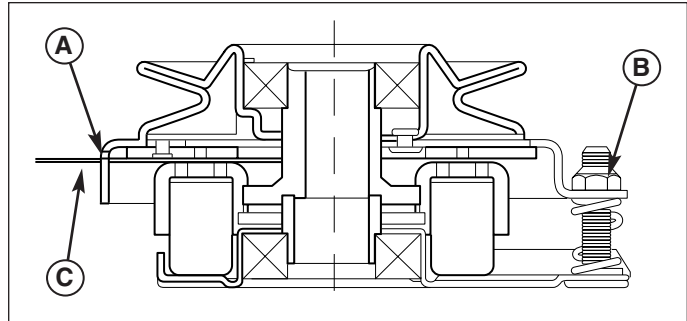

Figure 17. Adjust PTO Clutch
3. Insert a .016"-.018" (0,40-0,45mm) feeler gauge (C) through each window, positioning the gauge between the rotor face and the armature face as shown in Figure 17.